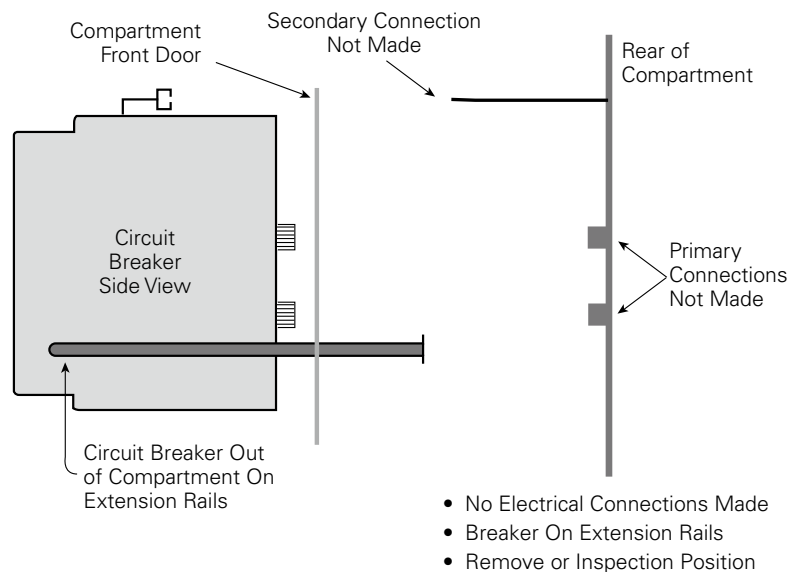

Figure 2-4 REMOVE position
- REMOVE (withdrawn) (Figure 2-4)